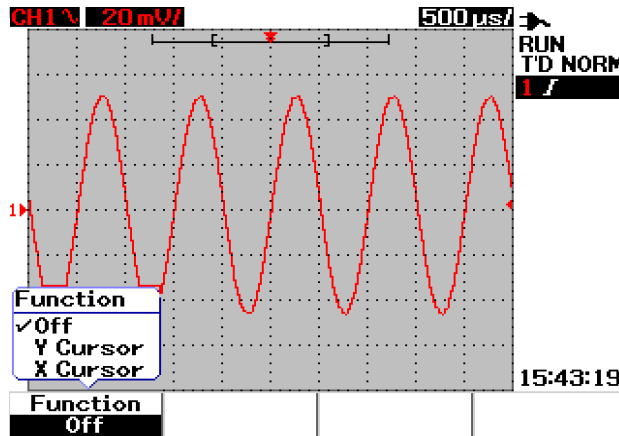

Figure 3-30 Cursor measurement menu
- 4 In Figure 3-30, two cursor lines – X1 and X2 mode – are selected, where measurement is made for the signal at channel 1.